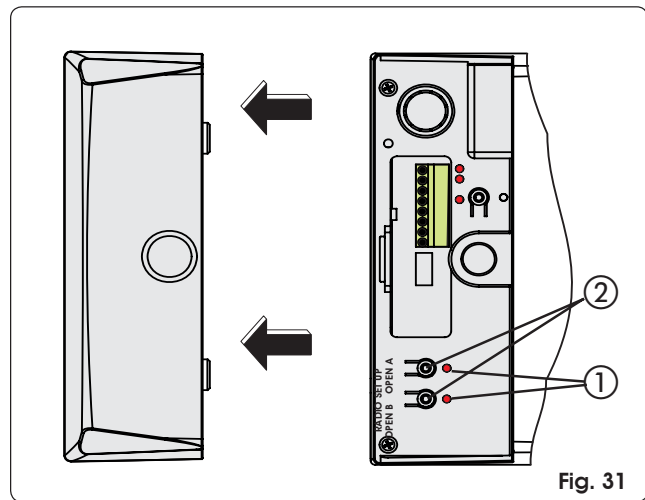

Fig. 31
- 2) To respectively memory store total or partial opening, press the OPEN A or OPEN B push-button for one second (Fig. 31 ref. ②)
- 3) The relevant LED (Fig. 31 ref. ①), begins to flash for 5 sec.
- 4) To respectively memory store total or partial opening, press the OPEN A or OPEN B push-button for one second (Fig. 31 ref. ②).
- 2) To respectively memory store total or partial opening, press the OPEN A or OPEN B push-button for one second (Fig. 31 ref. ②).